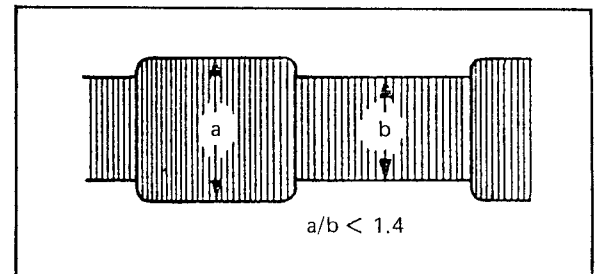

Fig. 6-37 FM channel balance
3. Check the level difference between the channels is within 3 dB as shown in Fig. 6-37.